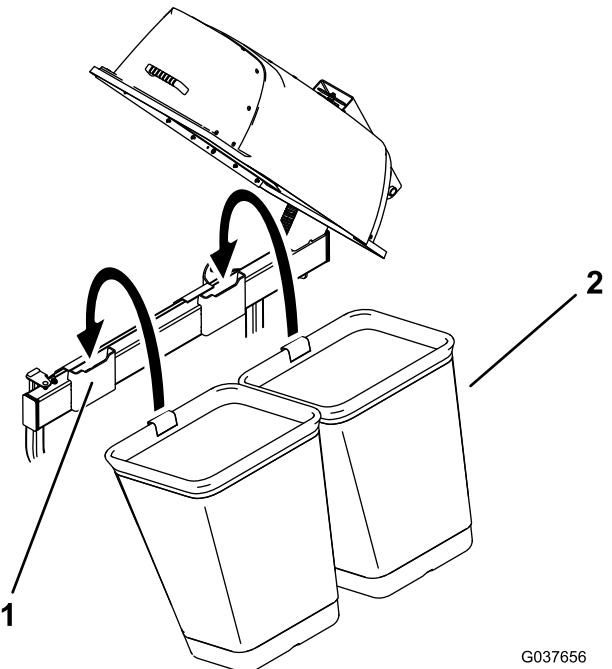

Figure 18
- Install the bags onto bag mounts (Figure 18).